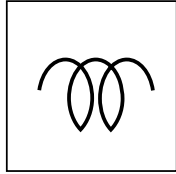

**Figure 40. Ignition Switch Pre-Heat (Run Position)**
1. In warm weather conditions, skip to step 3. In cold weather conditions, preheat the engine glow plugs by turning the ignition key (Figure 40) to the **RUN** position
- Turn the ignition key to the start position (Figure 42). Once the engine starts, release the ignition key and allow it to return to the **RUN** position (Figure 40).